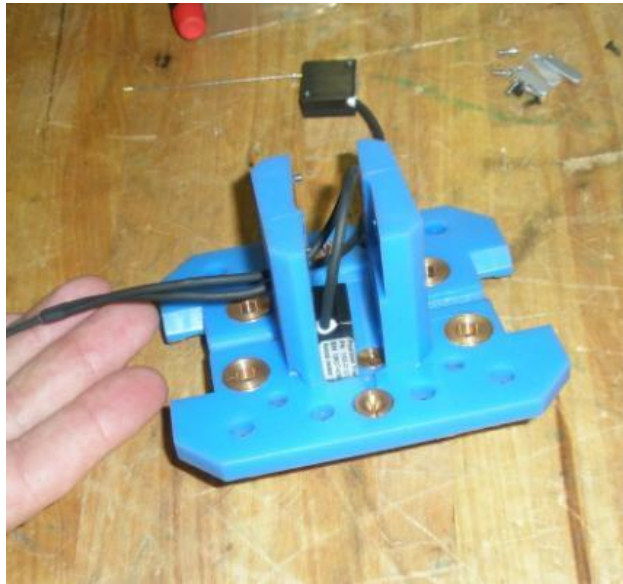
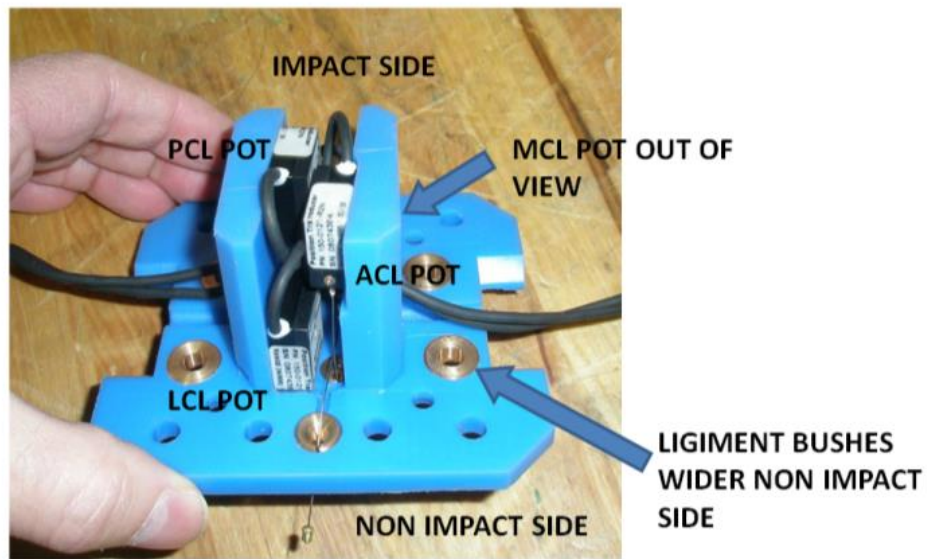
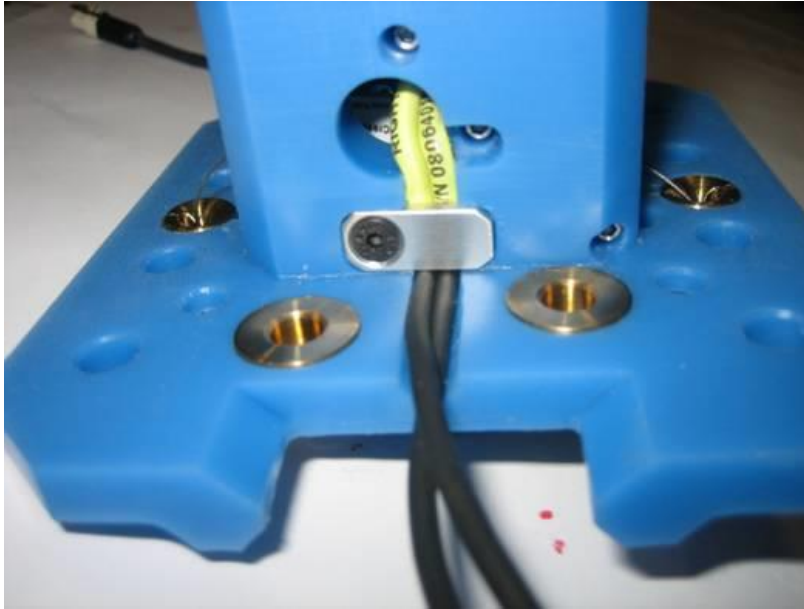

Figure 62 Meniscus string pot assembly wire feed
Figure 63 Meniscus with all string pots assembled. String pots identified
Figure 64 Meniscus wire clamp
Referring to Meniscus assembly (133-5313) feed the connector of one of the right-hand (RH) pull string pots (part number 61-503-05-01-00) through the inner side of one of the central holes, see Figure 62. The RH and the LH string pots can be identified from the serial number; the RH has an R at the end of the number and the LH an L. The two RH pull string pots are positioned closest to the main flange of the meniscus, one is shown fitted in Figure 62. Attach the string pot with the #2-56 x ¼ long cap head screws making sure the pull wire is directed towards the furthest away outer bronze bush. Fit the other RH pull string pot in the same way on the opposite side. Pass the pull wires through their designated bushes see Figure 63. Carry out the same procedure with the Left hand pull string pots (part number 61-507-05-01-00), the pull wires are directly in line with the two inner bushes. Feed the pull wires through the bushes. Make sure electrical wires are inside the cavity as much as possible then run cables through channels both sides and clamp with retaining plate see Figure 64. Fit assembly to knee block bottom ensuring pot wires are in their grooves. The threads of the four M5x10 low head cap screws used to retain the meniscus will need to have low strength thread lock applied. This will prevent the screws coming lose when in service.